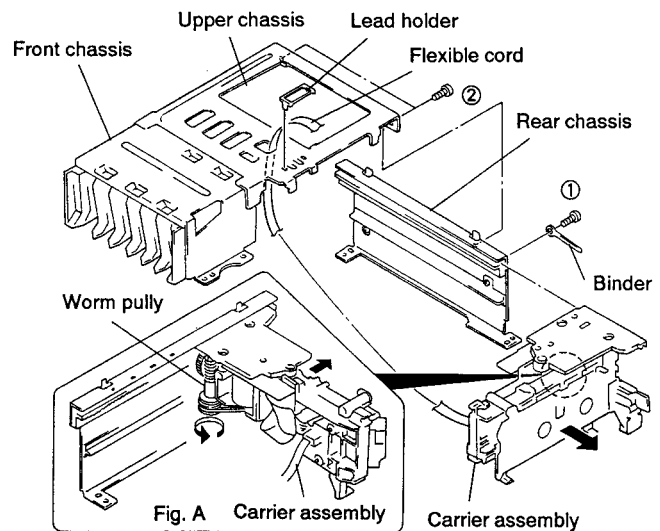

Fig. 2-8
2.7 REMOVAL OF CARRIER ASSEMBLY (Refer to Fig 2-8 and 9.)